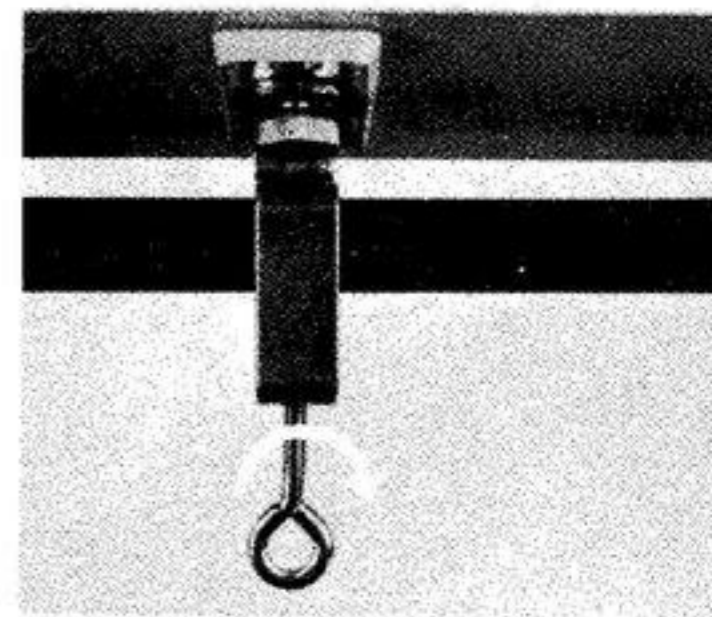

Fig. 9
5. Clamp the machine to the table edge. (Fig. 9)
(Fig. 9)